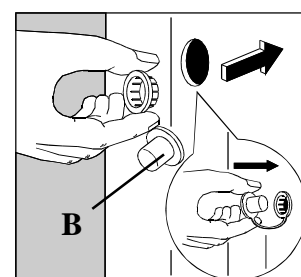

Fig 4
- The holes which are now visible must be closed with the plugs (B) provided with the appliance (fig. 4).